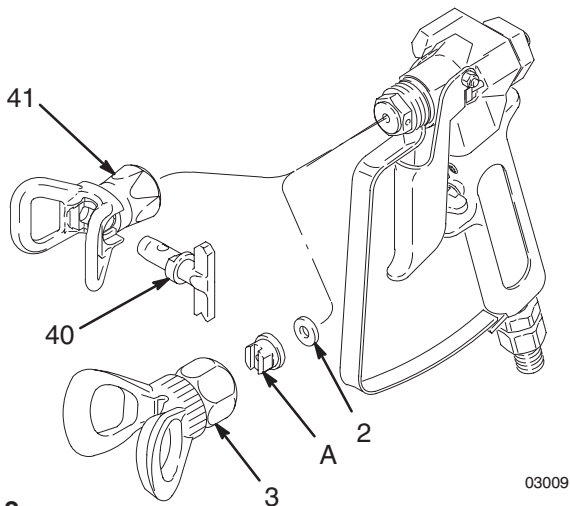

Fig. 2
1. Connect a grounded fluid hose to the gun inlet. See Fig. 2
4. Models 217593 & 235990: unscrew the tip guard (3) and install the tip (A) and the gasket (2) in the nut of the tip guard. Screw the assembly firmly onto the gun. Tighten the assembly with a wrench. See Fig. 2.
5. Models 220955 and 820165: install the SwitchTip (40) and the tip guard (41). See manual 308644, supplied. See Fig. 2.
2. Remove the tip guard assembly. See Fig 2.
3. Squeeze the trigger while unscrewing the diffuser/seat (A) and gasket (B).
4. Remove the locknut (D) and end cap (23).